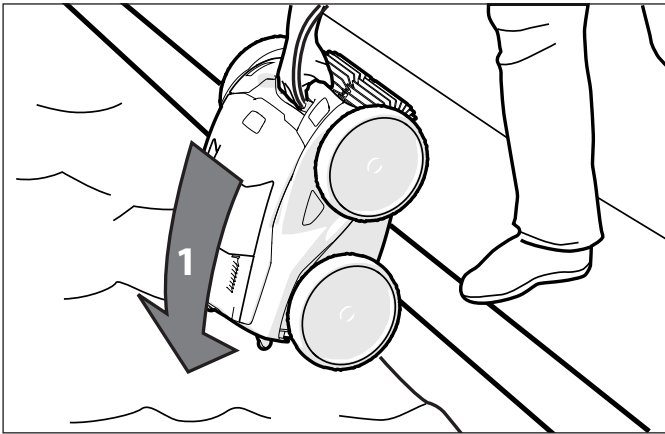

Figure 12. Submerge the Cleaner Vertically
2. At the center point, submerge the cleaner in the pool and hold in the vertical position to release any air trapped inside. (Figure 12).